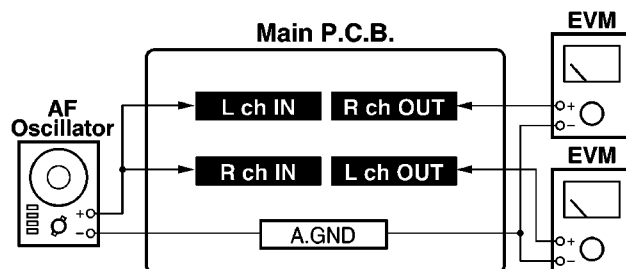

Fig. 13-8.
1. Connect the measuring instrument as shown in Fig. 13-8.